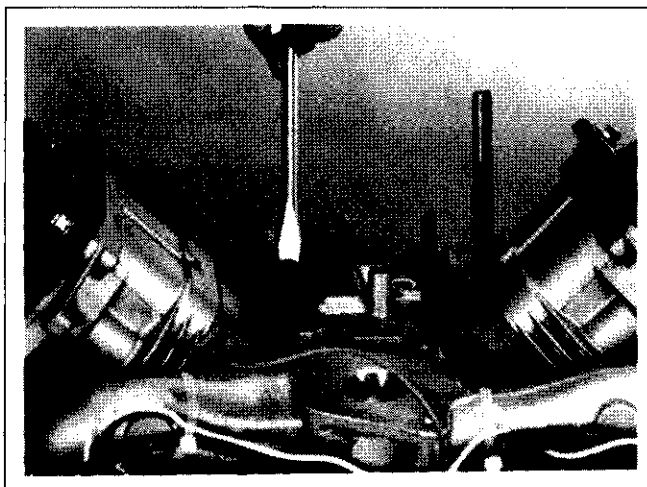

Figure 9-33. Breaking Breather Cover Seal.
4. Pry under the protruding edge of the breather cover with a screwdriver to break the RTV seal (see Figure 9-33). Do not pry on the sealing surfaces as it could cause damage resulting in leaks. Latest engines use a formed gasket rather than RTV sealant.